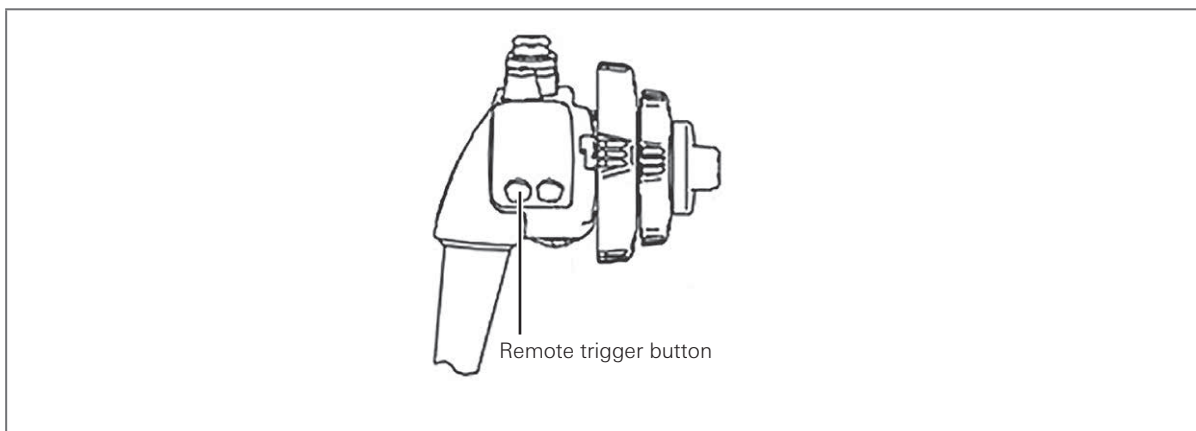

Figure 4.5
1. Press the remote trigger button on the handle of endoscope (see Figure 4.5) to trigger the image printing by compatible printer.